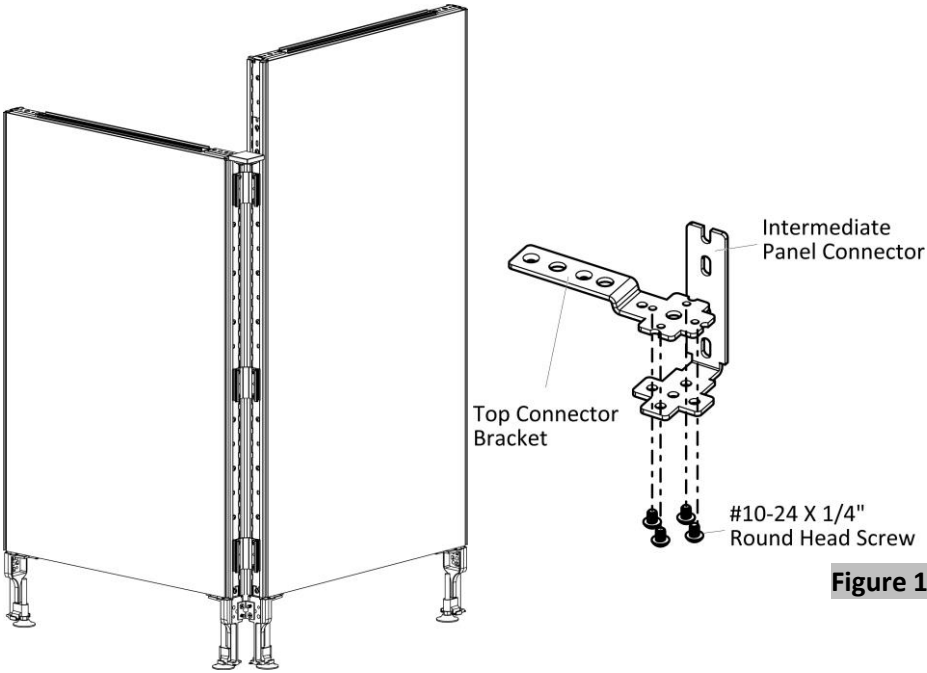

Figure 1
1. Securely fasten the intermediate panel connector to the top connector bracket with four #10-24 X 1/4" Round Head Screws, (Figure 1).